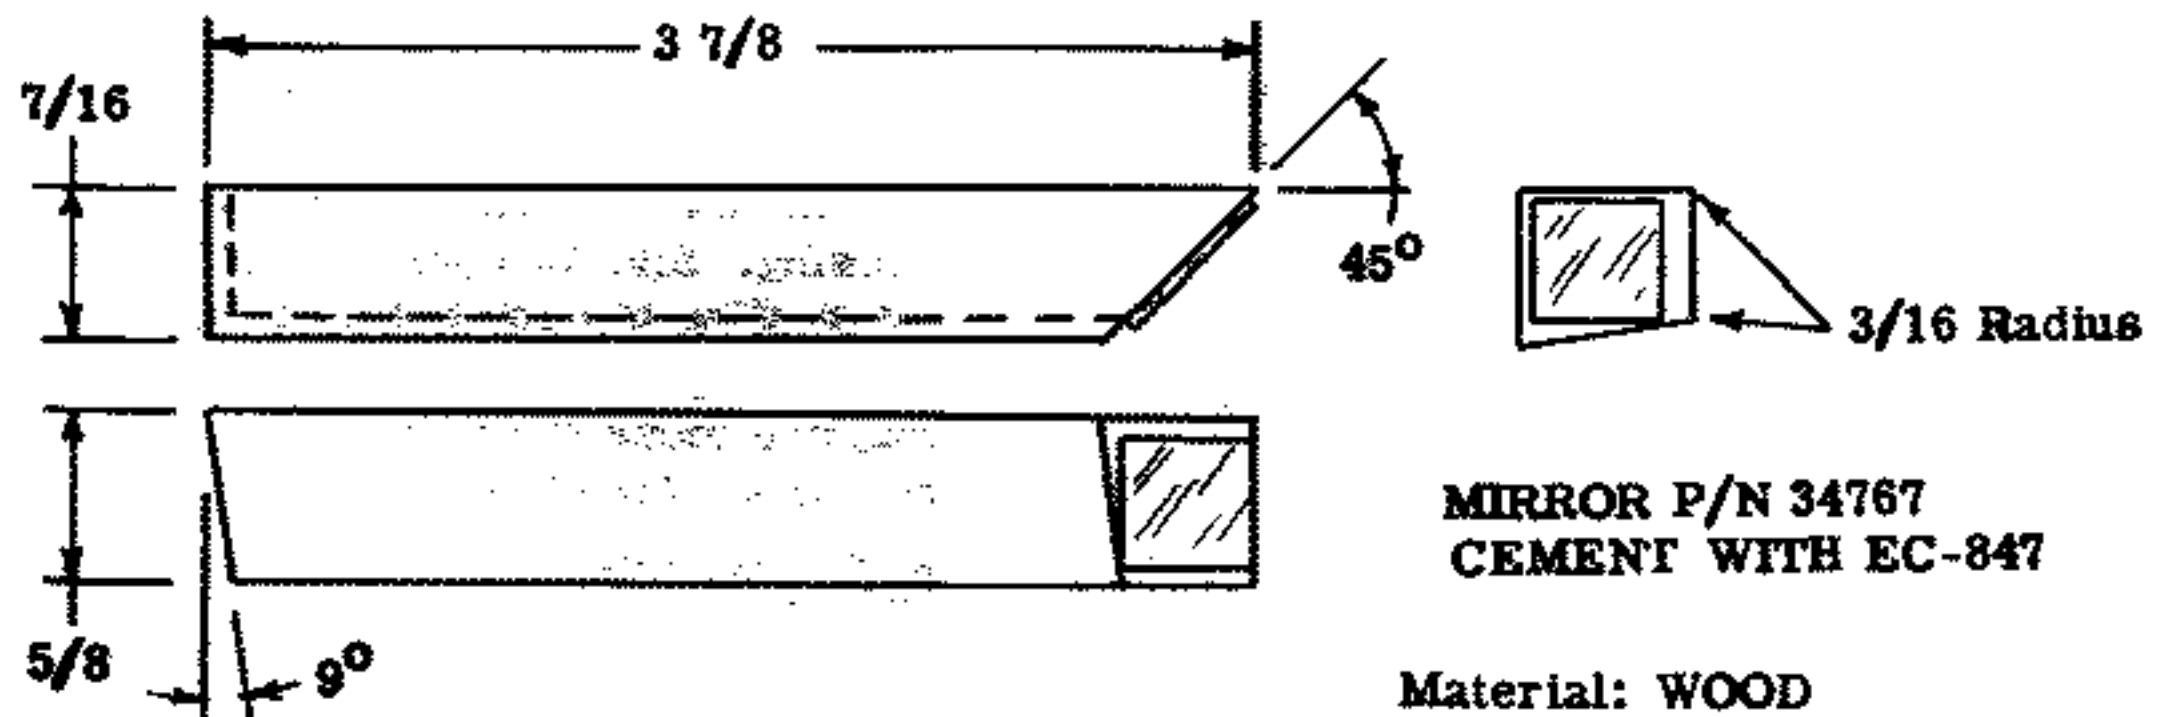

Figure 5 LAMP ALIGNING BLOCK
- b. Lamp aligning block (figure 5), used to simplify focusing of Rangelite.